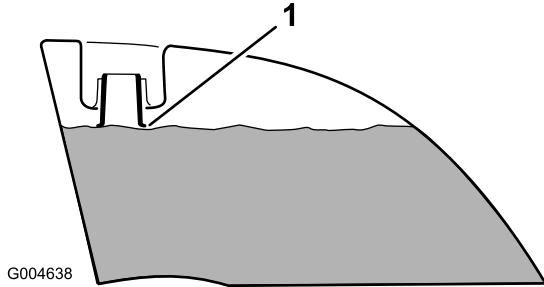

Figure 41
4. Add fuel to both fuel tanks, until the level is even with the bottom of the filler neck (Figure 41). **Do not overfill the fuel tanks.**